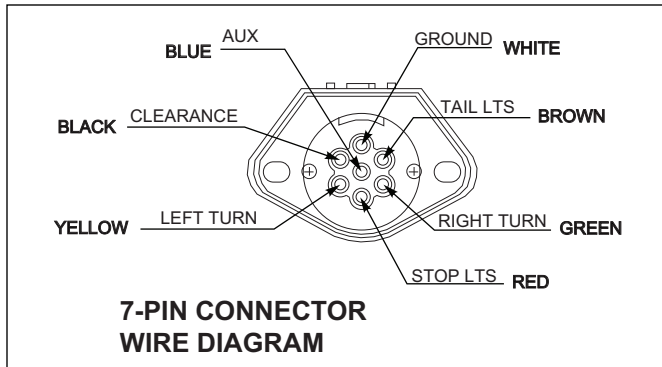

Figure 3-2: 7-pin Connector
3. Connect the service and emergency air hoses of the towing vehicle to their respective gladhand on the front of the semitrailer; red emergency line to the gladhand with the **"EMERGENCY"** tag, and the blue service line to the gladhand with the **"SERVICE"** tag (See Figure 3-2.) Chock the semitrailer wheels before activating the semitrailer air supply valve in the towing vehicle. Set the parking brakes.
1. Connect the towing vehicle 7-pole electrical plug to the electrical receptacle on the front of the semitrailer (See Figure 3-2.)